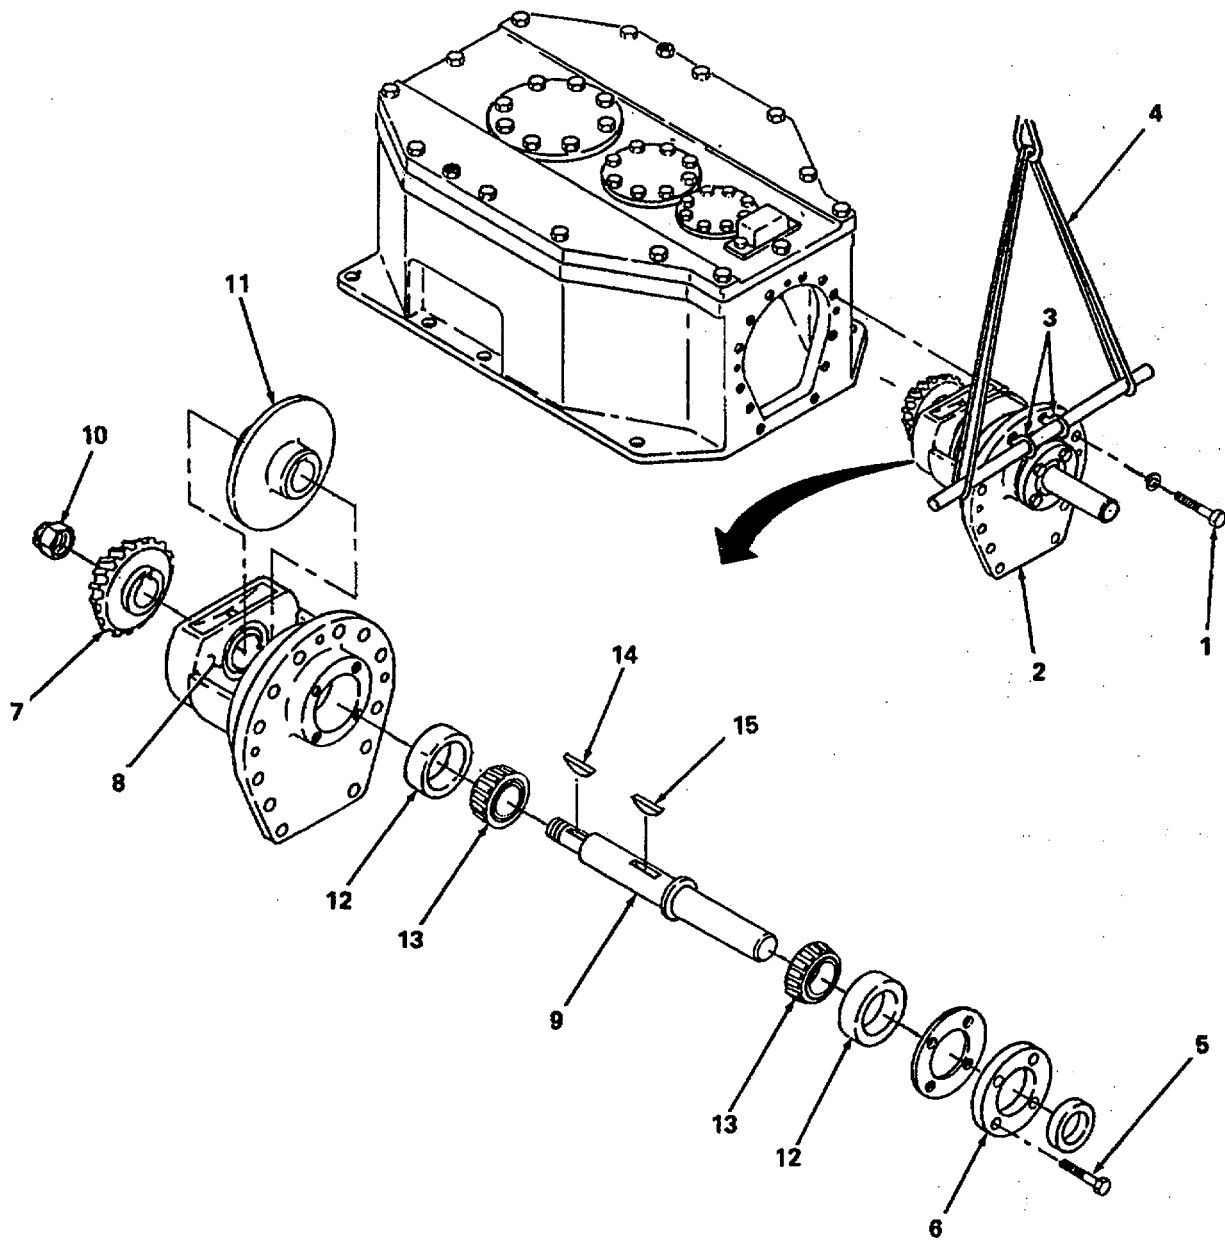

Figure 6-11. High Speed Head Removal and Disassembly.
- (1) Remove and disassemble high speed head assembly.
- (a) Remove top two cap screws (1, figure 6-11) from the high speed assembly bolting flange (2) and install eyebolts (3) in place of cap screws.
- (b) Attach lifting sling (4) to eyebolts and remove remaining cap screws (1) from high speed head assembly bolting flange.